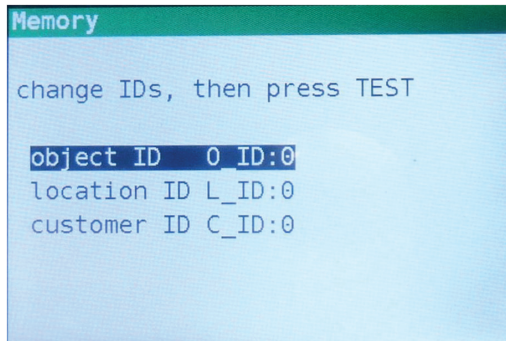

Figure 7.3: ID editor
Step 3 To change customer ID, location ID or object ID, press the LEFT key. The following screen will be displayed (Figure 7.3).